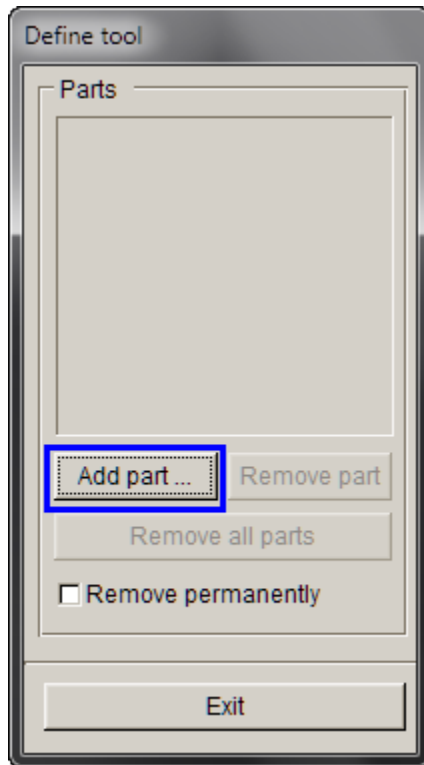

Figure 32
4. Click **Add Part...** . See Figure 32.